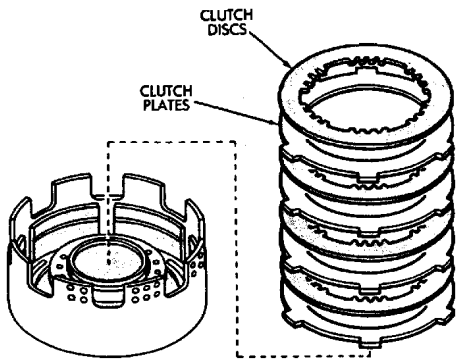

Fig. 11 Installing Direct Clutch Discs And Plates
(4) Install clutch discs and plates (Fig. 11). Install plate then disc until all plates and discs are installed. Use four plates and discs in 6-cyl. transmissions and three plates and discs in 4-cyl. transmissions.